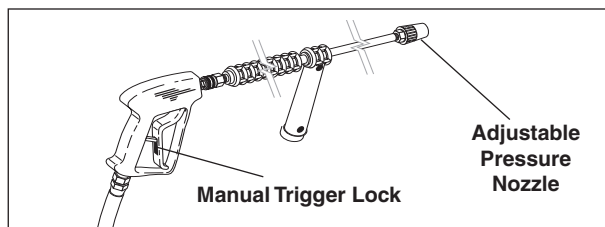

Figure 6 - Nozzle Installation/Manual Trigger Lock
7. Install the adjustable pressure nozzle on end of wand, refer to **Figure 6**.
IMPORTANT: The trigger gun provided with this pressure washer is equipped with a manual trigger lock to prevent accidental operation of the trigger gun, refer to Figure 6. The trigger lock should be used whenever the trigger gun is not in use.